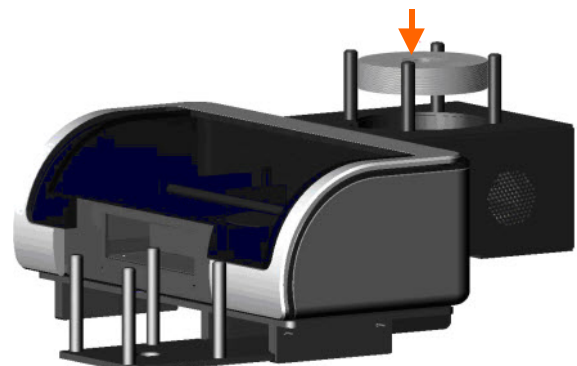

Figure 2.4 Loading Disc Input Bin
1. Load up to 50 discs, with the print surface facing up, into the disc input bin (see figure 2.4).